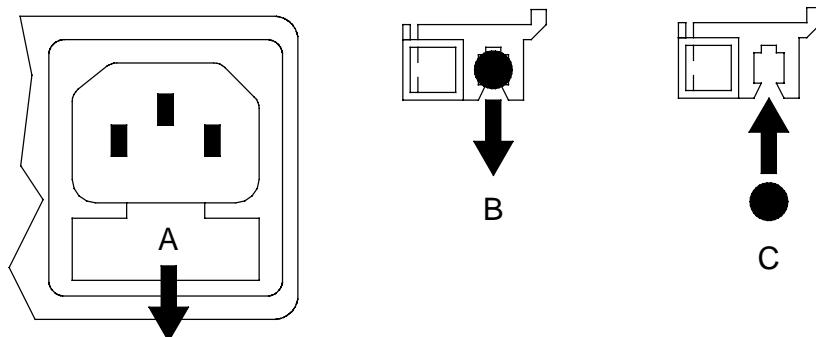

Figure 9 – Changing the Mains Fuse
Referring to **Figure 9**, remove the power cable, use a small flat bladed screwdriver to pry up the tab on the fuse carrier (A) and pull it out. Push the blown fuse out of the clip in the carrier (B) and dispose of it. Fit a new fuse in the clip (C) and push the carrier back into the unit so that it clicks home.